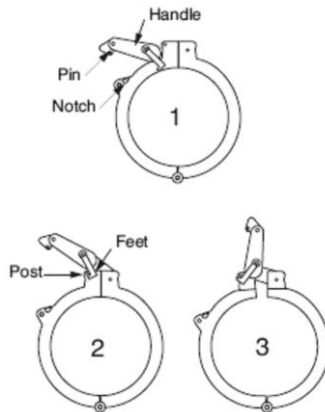

Figure 2 – Release the clamp handle to open the closure.
4.2 **Closure Prep:** Release the clamp handle to remove the dome from the closure (Figure 2). Apply slight pressure to the side of the handle to disengage the locking tab. Hook the handle on the two posts and pull back until the clamp releases from the closure. Keep the o-ring, clamp, and dome clean and dry.